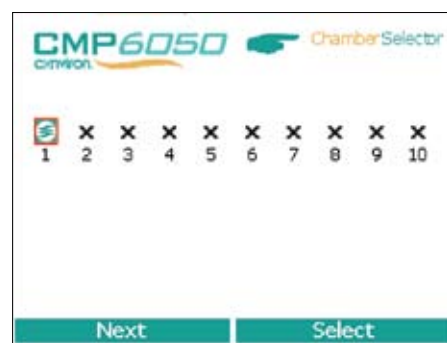

Figure 2-1: Chamber Selector Screen
The CMP6050 is shipped from Conviron with the latest software installed and with the control system configured for each specific application. Whenever the chamber is turned on, the first screen to be displayed is the Chamber Selector screen shown in Figure 2-1. The Conviron 'wave' icon displayed in this screen represents the chamber(s) that is (are) controllable from the display. Each display can control up to ten (10) chambers. If the display has been configured to control more than one chamber, then the Chamber Selector screen will show additional icons to represent the additional chambers. The 'blinking' icon with the red border represents the chamber currently active with the display.
For example, Figure 2-1: Chamber Selector Screen illustrates that the Display is set up to control two chambers with chamber number 1 being the currently selected chamber. To select a different chamber, simply tap the 'Next' tab at the bottom left of the screen with the stylus and then tap the 'Select' option at the bottom-right of the screen. (To configure additional chambers to be controlled from the same Display, refer to Section 8-4: Logged Data-Network in this Manual.)